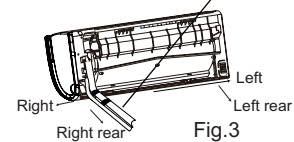

Fig.3
2. Take out the piping from body case; wrap the piping, power cords, drain hose with the tape and then make them pass through the piping hole. (As shown in Fig.3)